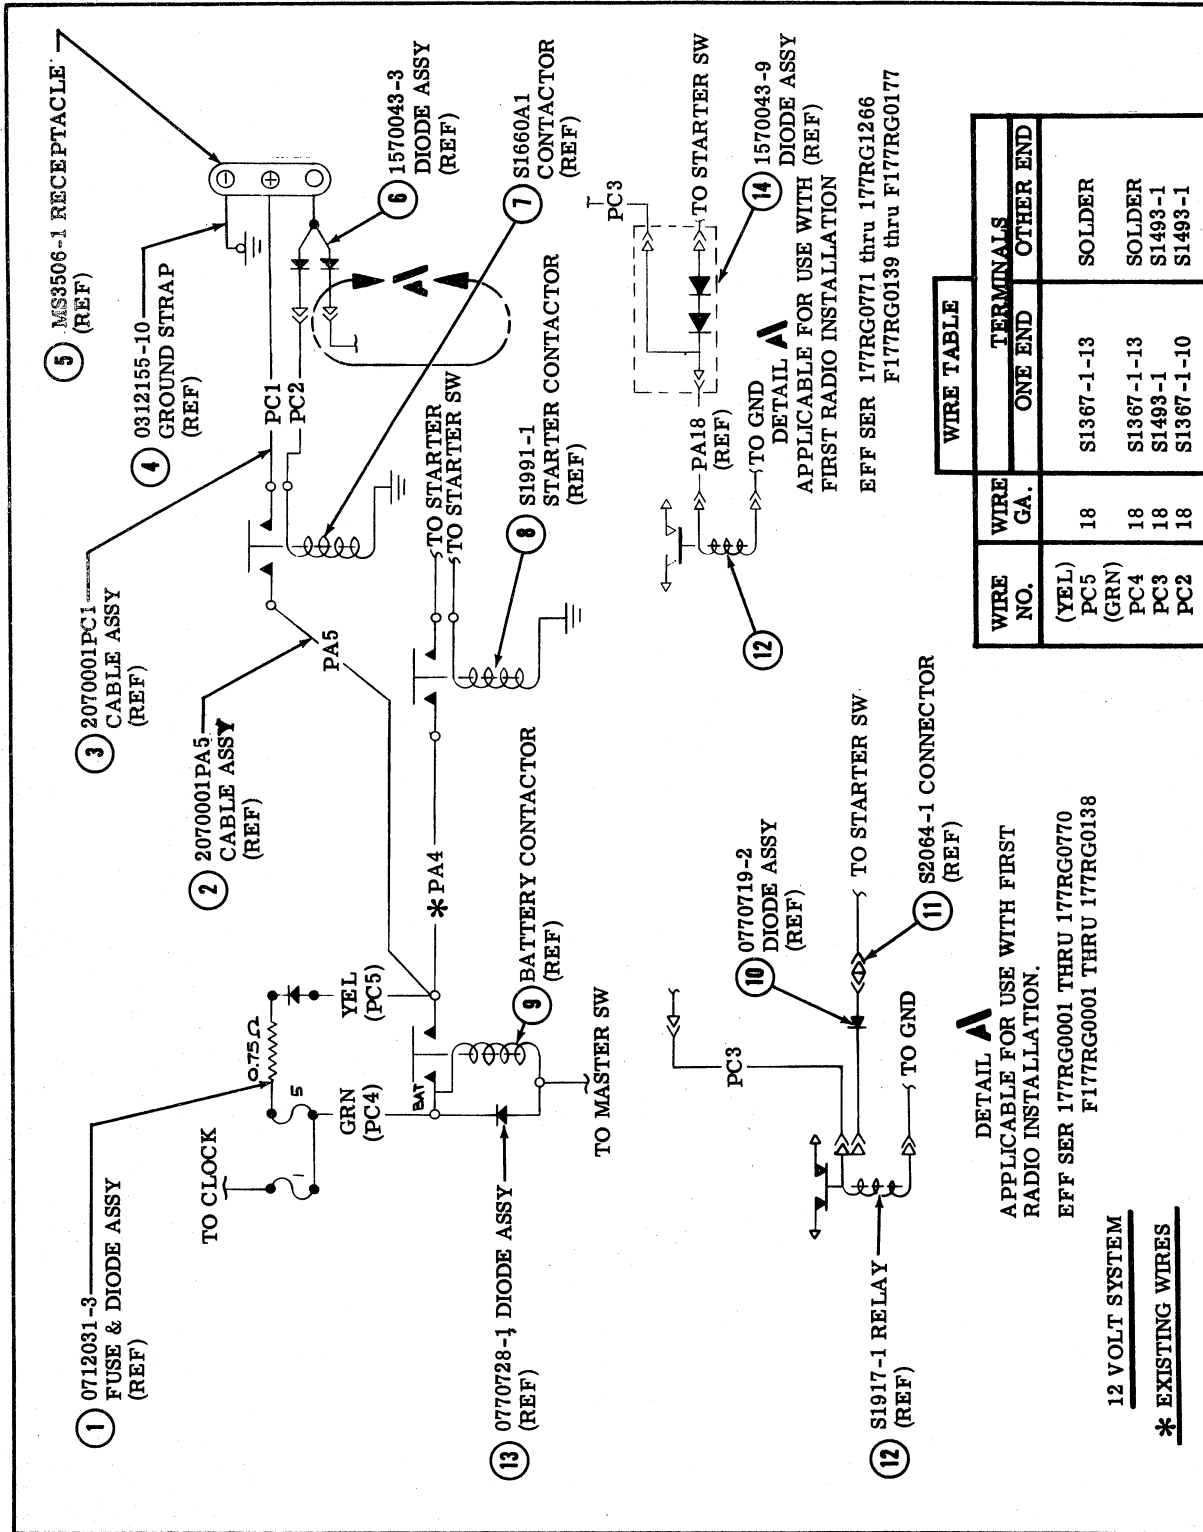

Figure 4. Wiring Diagram
e. (Refer to figure 4.) Wiring Installation.
- (1) Fabricate and install wiring as shown in accordance with wiring diagram.